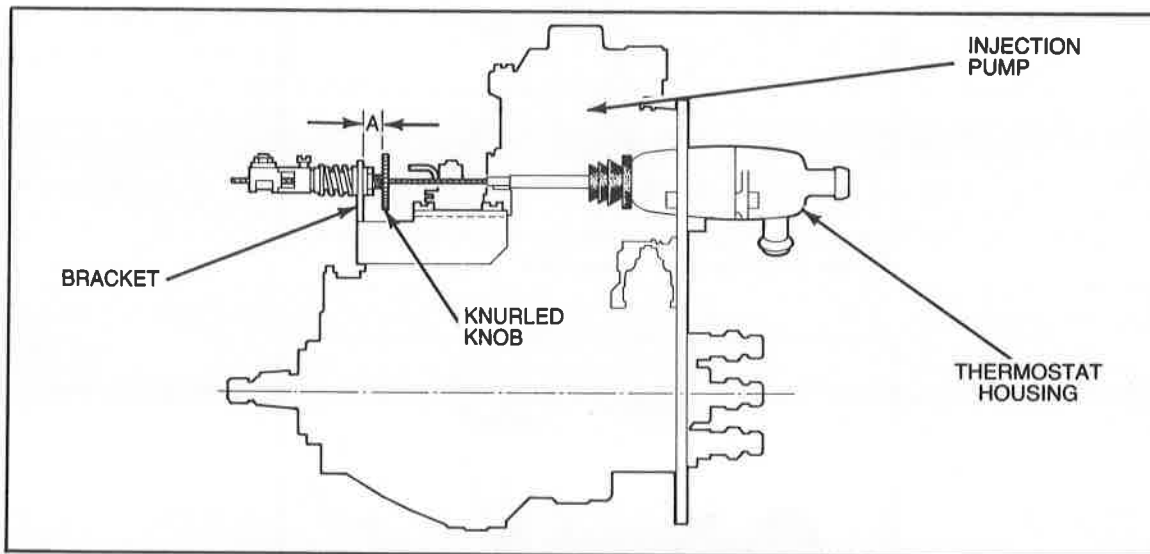

Figure 14 Dimension A
3. Measure and record distance between bracket and knurled knob (Fig. 14, Dimension A).